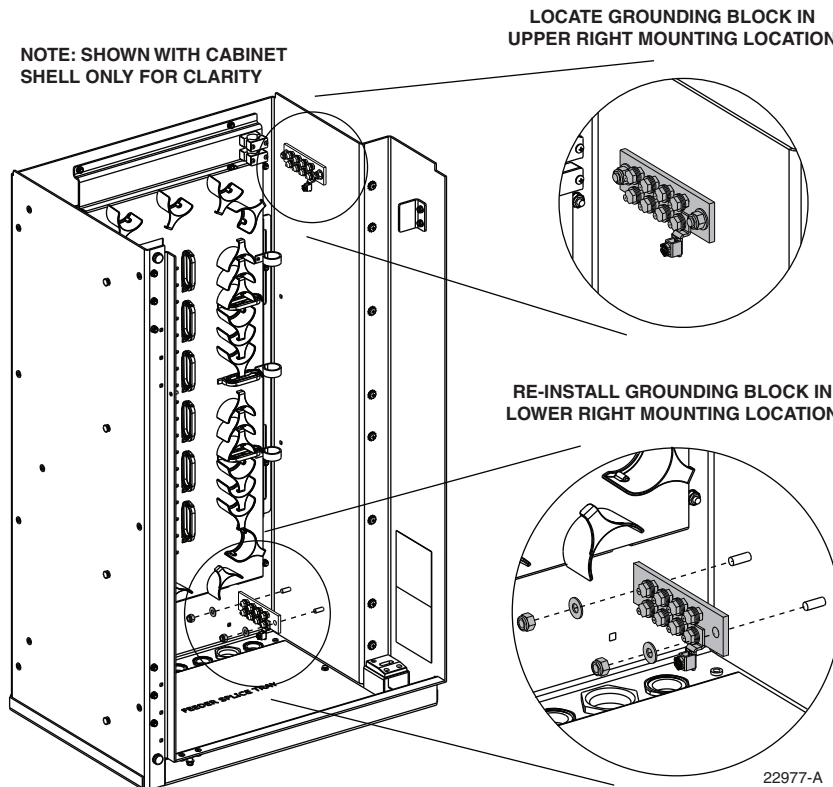

Figure 28. Grounding Block Relocation
2. Locate the grounding block that is mounted on the upper right side of the cabinet as shown in Figure 28.
4. Re-install the grounding block on the lower right side of the cabinet (see Figure 28) using the nuts and washers removed in step 3.